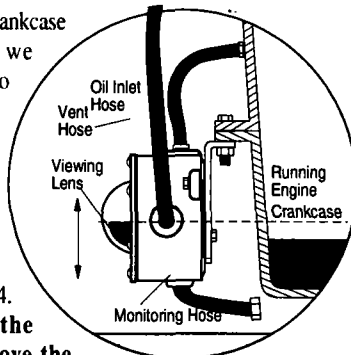

Figure 4
2. Attach the 1 inch (25 mm) diameter, flexible monitoring hose to the crankcase and the monitoring port on the LM300. See Figure 4. **CAUTION:** The hose must slope slightly downward from the LM300 and **MUST NOT** have any droop or low spots.
3. Install the 1/2 inch (13 mm) I.D. x 3 ft. (914 mm) hose to the vent connection on the LM300 to the vent connection on the crankcase. See Figure 4. **The vent connection on the crankcase must be well above the regulated oil level.** All hoses must be clear of obstructions.
4. Fill the crankcase to the proper oil levels. With the engine running and warm, loosen the mounting bracket adjustment bolts and adjust the LM300 so that the oil level in the sight gauge is aligned with the white "index line" on the dial (Figure 4). Tighten the adjustment bolts securely.